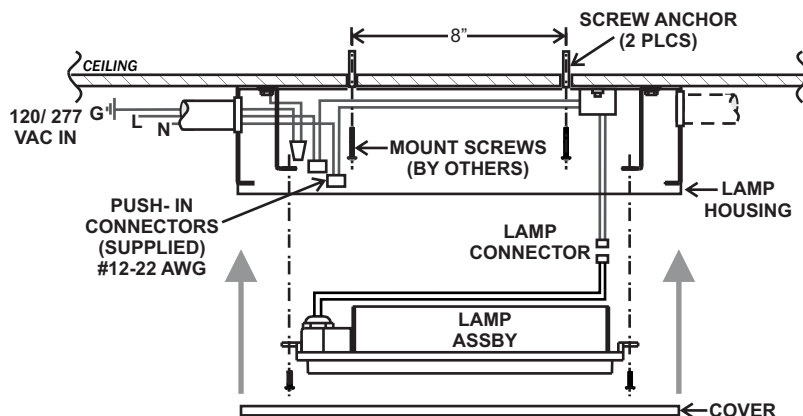

Fig.1
1. See Fig 1. Identify mounting position on ceiling in accordance with fixture layout specifications,